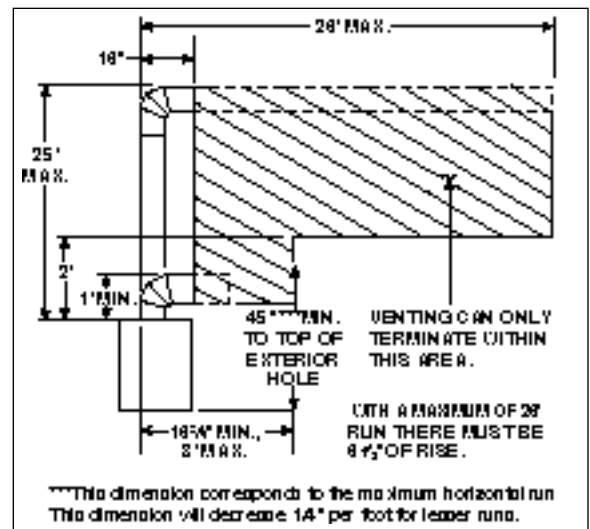

Figure 5 - Horizontal Length
Minimum combustible clearances to the vent on a horizontal run is 3" on top and 1" on the bottom and sides. These clearances must be maintained at all times. The maximum horizontal run allowed for venting is 26 feet. The maximum vertical rise allowed for horizontal termination is 25 feet. See Figure 5.
4. Venting through the wall. Horizontal venting must terminate within the shaded area shown in Figure 5 on the previous page. For example, if your vertical rise is the minimum one foot, venting can terminate anywhere between 16 inches and 3 feet.